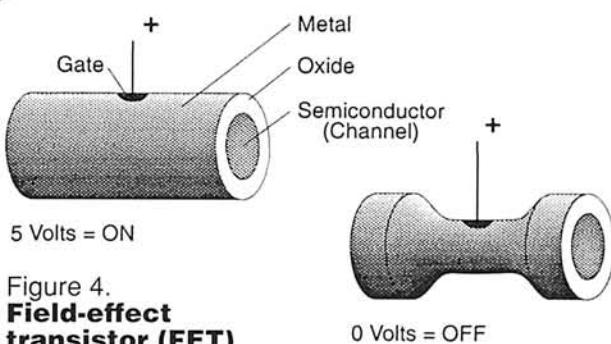

Figure 4.
The basic operation of the MOS-FET is easy to understand. It's a three-layer sandwich. A layer of metal (M) covers a layer of insulating oxide (O), which covers a layer of highly conductive silicon semiconductor (S). Although the configuration is nearly flat, we can imagine it as a faucet (see Figure 4).